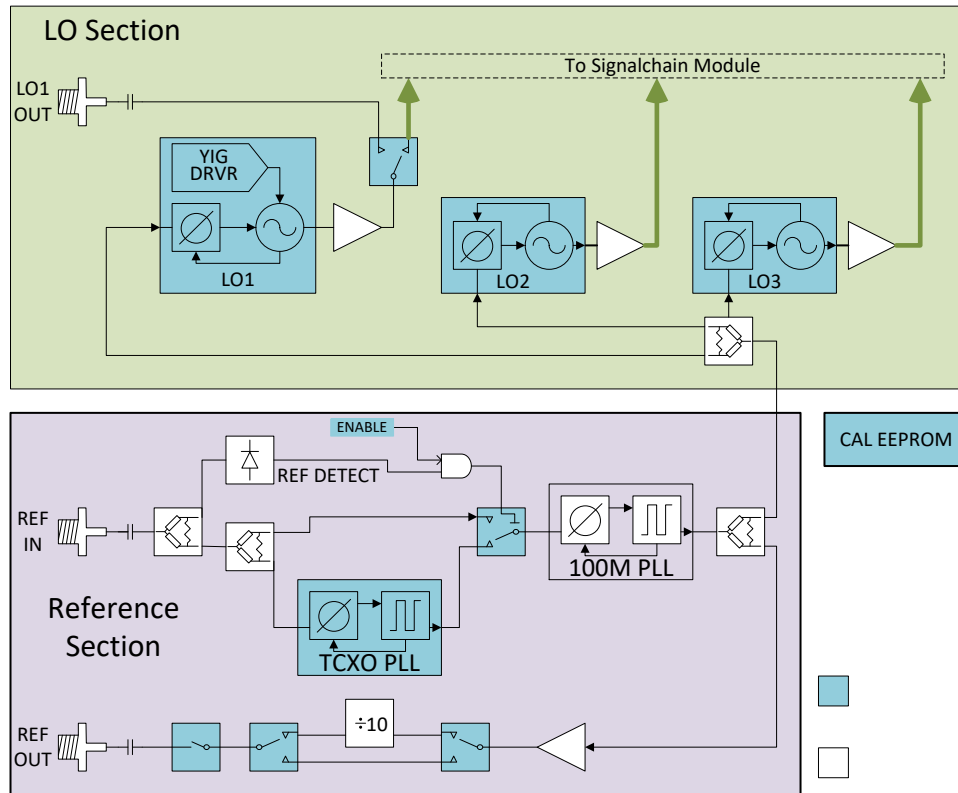

Figure 5. Block diagram of the local oscillator module
The local oscillator (LO) module contains three local oscillators, the reference clocks, and the calibration EEPROM as shown in *Figure 5*.